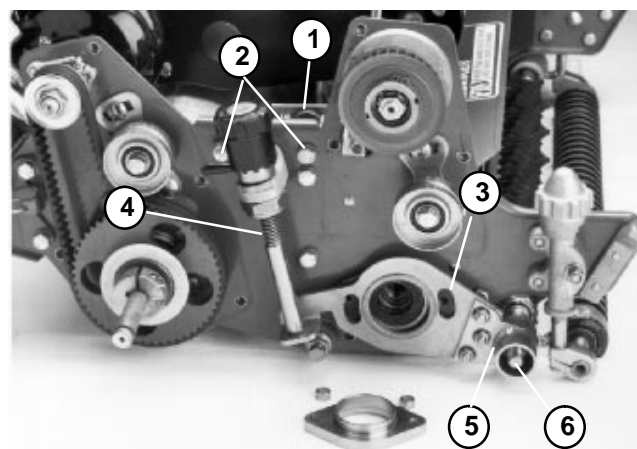

Figure 28
A. Slide bearing housing of frame assembly (RH) over the end of the grooming reel shaft (Fig. 28)
C. Insert both flat head screws through the groomer arm cover and adapter. Put a spacer over each screw before placing the adapter into the reel bearing housing (Fig. 28 and 29).
D. Slide adapter through the bearing and into the reel bearing housing. Install lock nuts on flat head screws and torque from 23 to 27 ft-lb (3.2 to 3.7 kg-m) (Fig. 28 and 29).
9. Reinstall bedbar adjuster frame to the mower frame with cap screws and washers previously removed (Fig. 28).